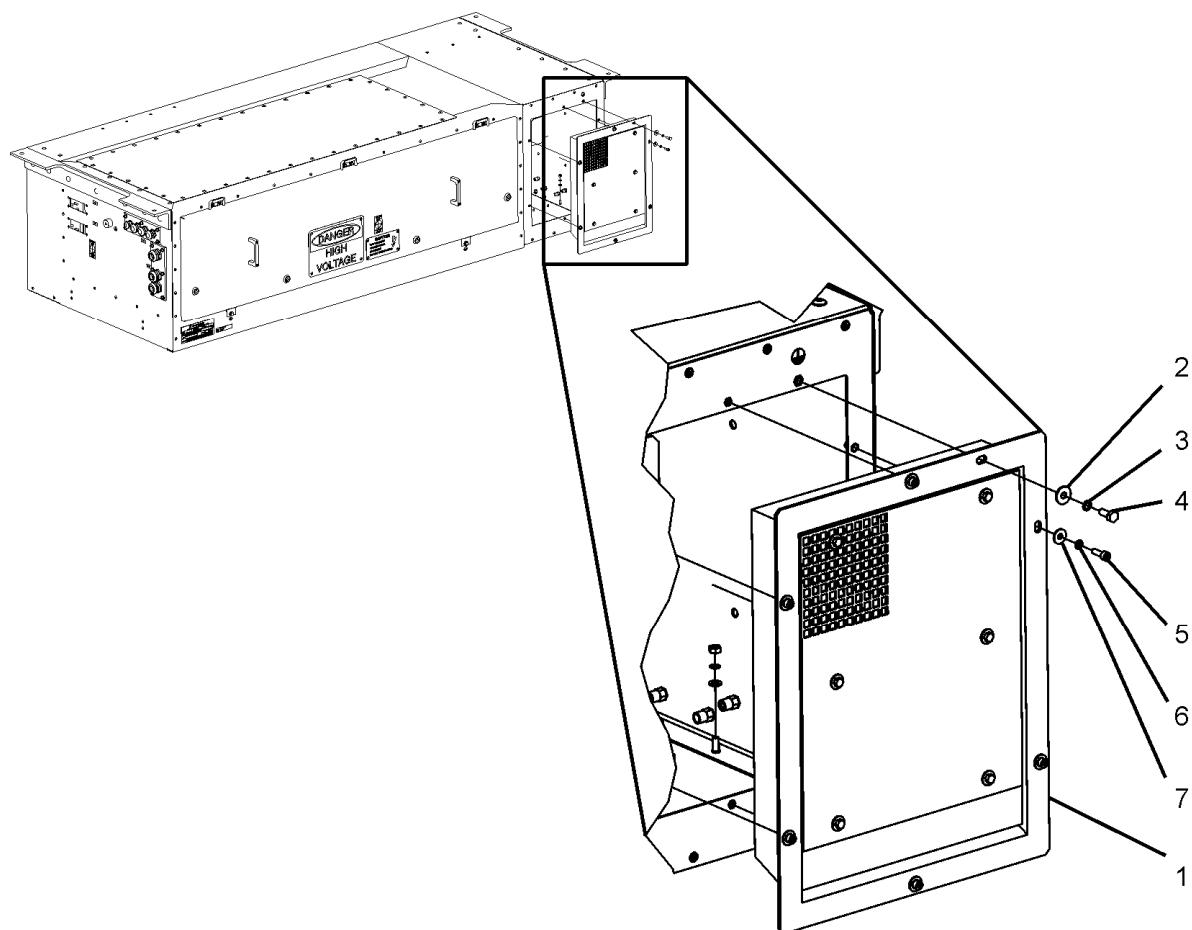

Figure 3-23: Removing Air Filter.
Callouts in brackets refer to Figure 3-23.
4. Remove the top M5x16 screw (5) and accompanying M5 Schnorr (6) and flat (7) washer. See Figure 3-23.
5. Lean the Air Filter (1) forward and allow it to pull away from the APS.
6. Remove the Air Filter (1) and store in a safe place.